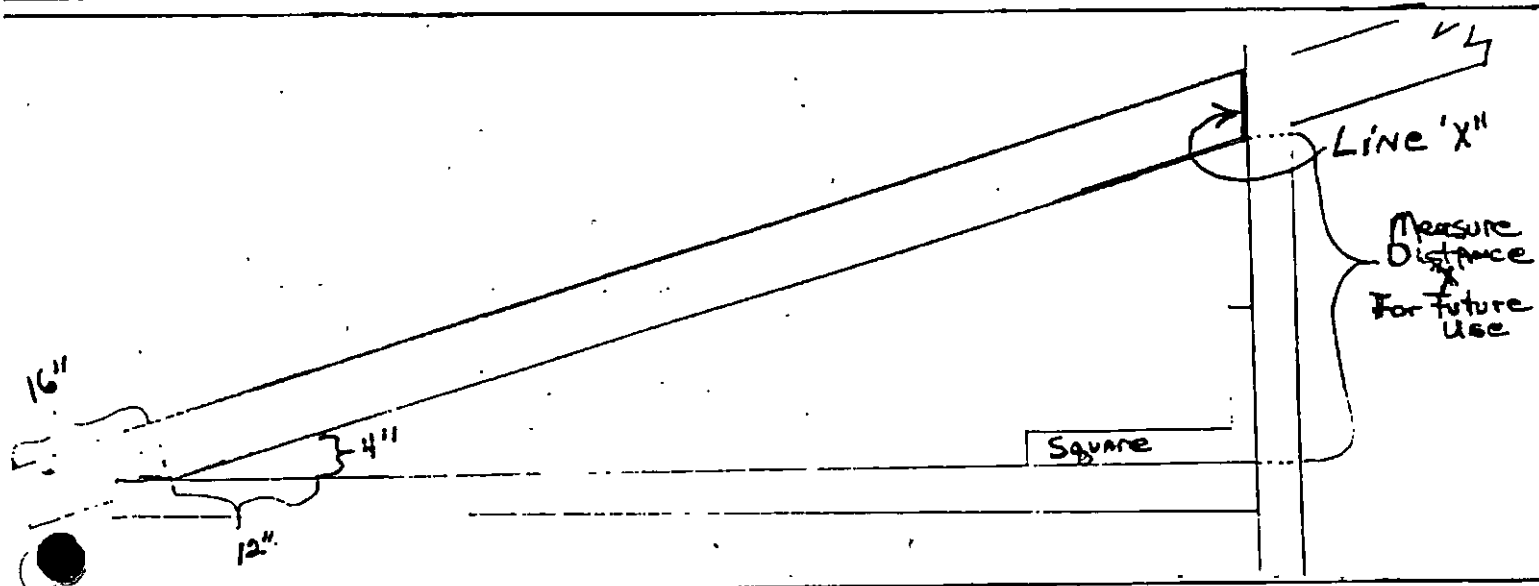

FIGURE 43
- Step 8. Using a framing square, place plank "B" at a right angle to plank "A" at mark and draw line x on rafter. Cut along line x and save scrap. (See Fig. 43)